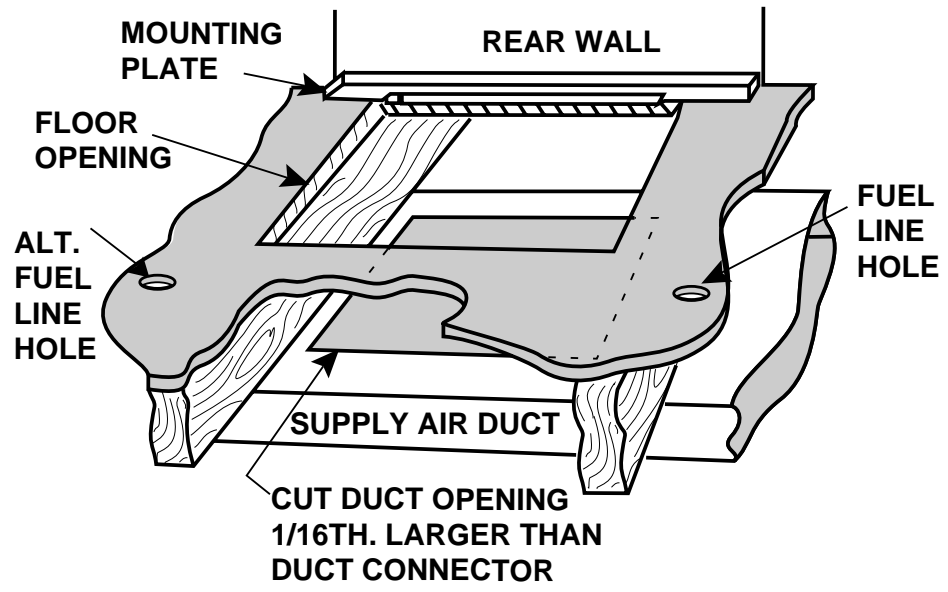

Figure 9. Mounting Plate
- Place mounting plate (supplied within duct connector) at rear of the floor opening (See Figure 9).